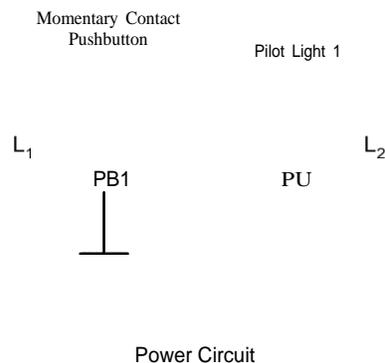

FIGURE 7.2
A manual control circuit is any circuit that requires a person to initiate an action for the circuit to operate. A line diagram may be used to illustrate a manual control circuit of a pushbutton controlling a pilot light (Figure 7.2).
Line diagrams are read from left (L) to right (Lt). In the circuit of Figure 7.2, pressing pushbutton 1 (PBI) allows current to pass through the closed contacts of PB1, through pilot light 1 (PLI) and on to L₂. This forms a complete circuit, which activates PU. Releasing PB1 opens contacts PB1, stopping the current flow to the pilot light. This turns OFF the pilot light.